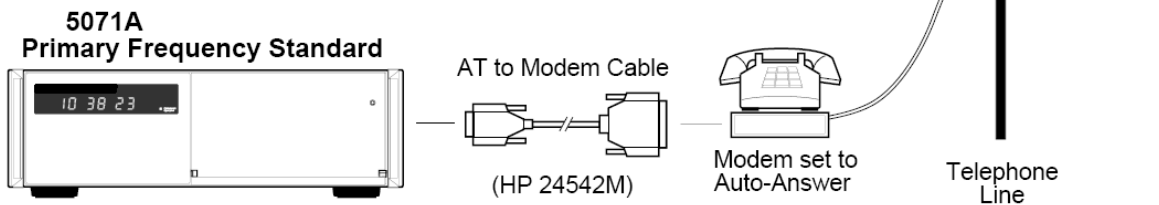

Figure A-2. RS-232C Cabling Setups
- 1 Ensure that the correct hardware connections exist between the 5071A and your terminal, personal computer, or workstation for your remote operation needs as shown in Figure A-2.